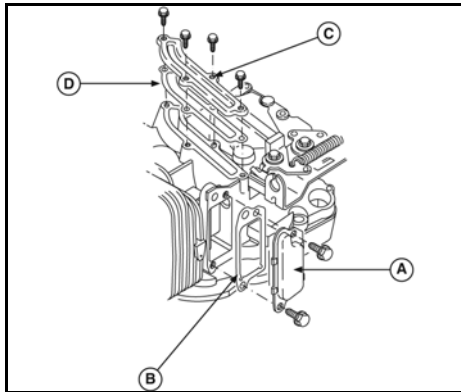

Figure 2
1. Remove two screws, breather assembly (A, Figure 2) and gasket (B) from side of cylinder. Discard gasket.
2. Remove four screws, breather passage cover (C), and gasket (D) from top of cylinder. Discard gasket.